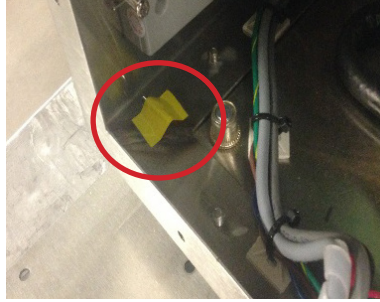

Figure H.3 - Extra Fuse
3. A spare fuse should be taped to the inside base of the VDO (See Figure H.3). To change this fuse, remove the fuse holder by inserting a small screwdriver or other tool in the slots either at the top or bottom of the fuse holder, and pry it out. Replace the fuse if necessary, and re-insert fuse holder in to the display until it snaps in place.